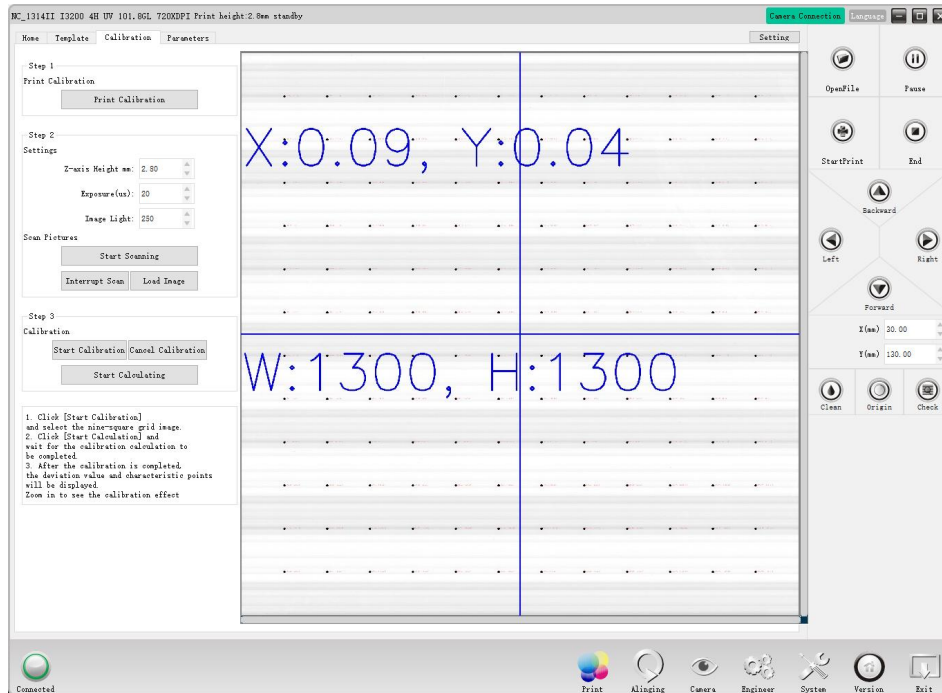
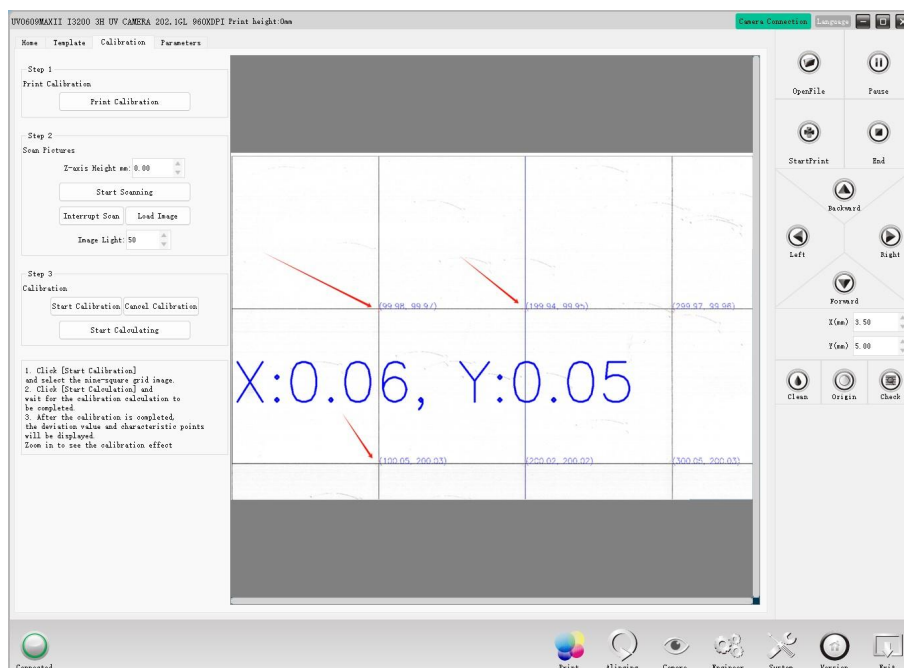

Figure 5-2 Calibration Result
Figure5-3 Calibration Coordinates
6 . Check whether each mark point progresses in 100mm increments. A normal calibration will return coordinates of 12×12 dots, as shown in Figure 5-2 and Figure5-3.
7. After calibration, the excess parts outside the grid will be cropped. The displayed image will be identified locatable area, as shown in Figure 5-2.